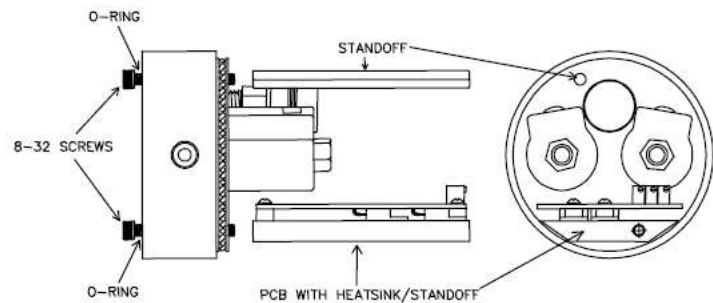

Figure 10
- E. **Figure 10** Remove the two 8-32 SHCS screws and o’rings from manifold to remove both the regular tall standoff and the board standoff.
- Place o'rings on two 8-32 SHCS screws line up with holes through bottom side of manifold. Figure 10
- Place board standoff, pots facing up, on valve side, opposite sensor, and fasten with 8-32 SHCS screw. Figure 10
- Place regular tall standoff on sensor side of manifold and fasten with 8-32 SHCS screw tighten 7-8 in. lb. of torque. Figure 10